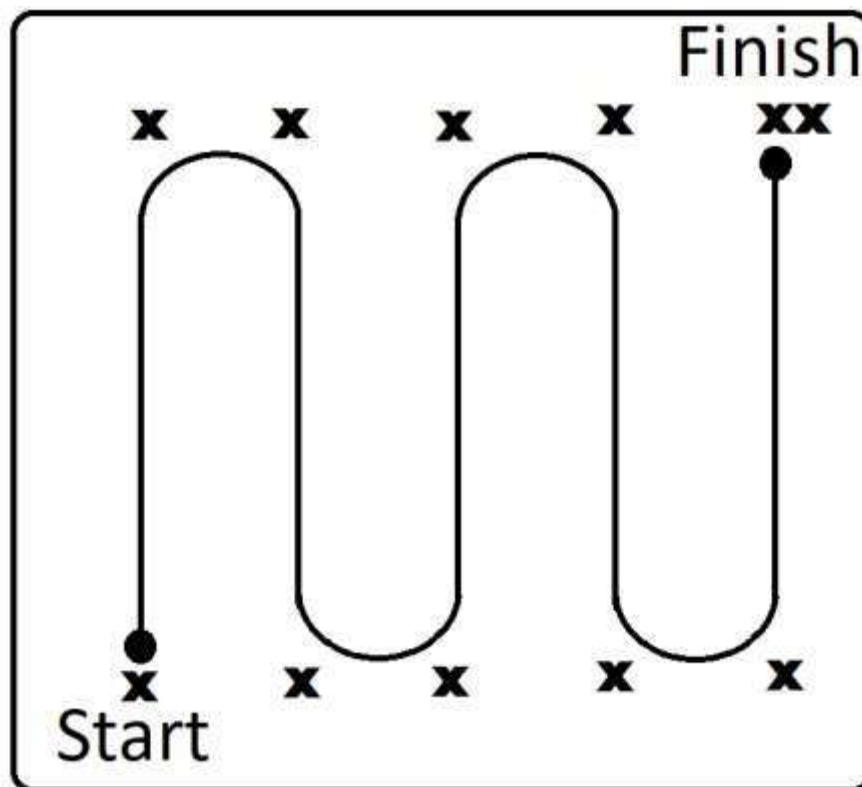
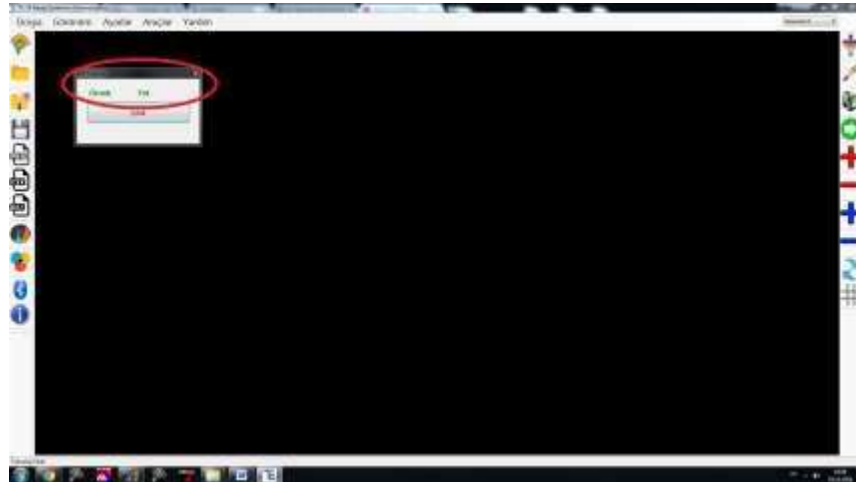

Figure 8
Figure 9
Tlmt: the land of the automatic setting of the detector is the part which determines what will be done to detect level. In this section, The number to be selected as one grows higher detection will automatically reset. Figure 9 in this section if you selected as the automatic setting as the infinite limit of soil is determined.
9. The above settings are done, it should be located at the lower left side of the display area. In the process of the shooting area of the imaging start shooting left six, finishing the shot on the right is the shadow. How to do the sampling during shooting are shown in Figure 8. When switched to the lower left corner of the shooting settings on the screen shot select the OK button. An image comes on the screen as shown in Figure 9 The result of this. The region circled in red here your shots during a match the nth sample path and in that path that were in the shows. The Cancel button also at the end of the path next to the road under the direction of the **Direction Change!** In the form of a warning the next part is located. Point to note here is that the sample was taken and how many how many ways change the way and be known! The other way to pass an alert must be known. When these guidelines are followed tread a path as shown in Figure 8. The 3D button on the main unit button during shooting will be used as the sampling detector. During shooting, when each button is pressed, the image on the tablet screen from the current position to the corresponding location in the received data by adding the attraction takes place in a concurrent manner. The final version of the image on the screen will appear when shooting is complete.
The icons in the main screen of the program shown in Figure 8.